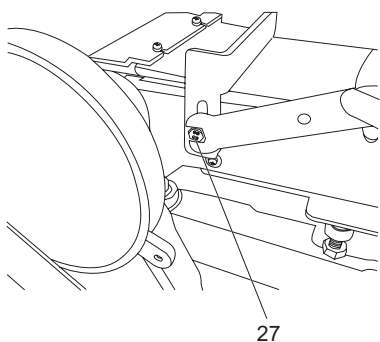

Fig. 14
- > Loosen with 10mm spanner and remove the head screw (27) and the washer. (Fig 14)